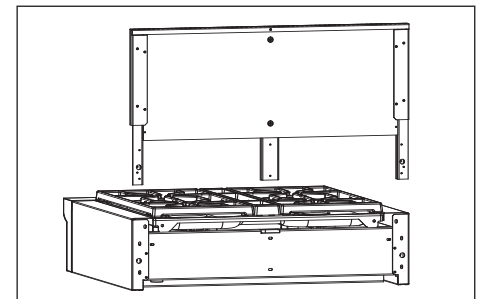

Figure 4
3. Slide riser side support legs inside rangetop outer side panels until bottom of riser assembly is flush with side panel (See Fig. 4). Verify that center support legs align with mounting holes.